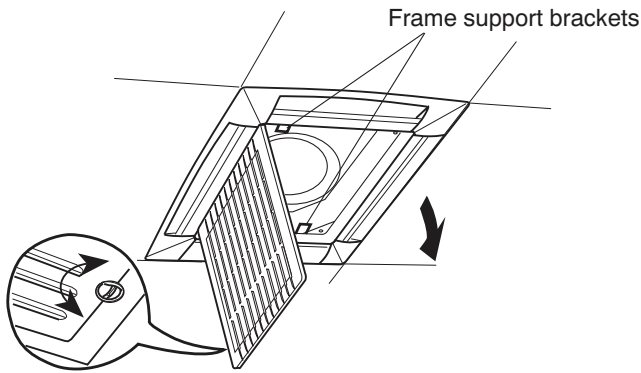

Fig. 35 - Attach Frame Assembly
- b. Attach the assembly to the unit by using the two hooks. See Fig. 35.